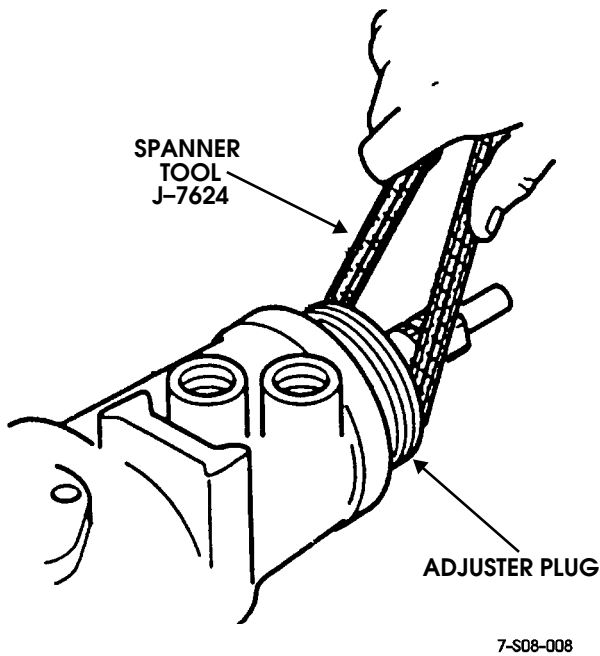

Figure 8-34: Adjuster Plug Removal
2. Remove adjuster plug from housing with spanner wrench J-7624 (Figure 8-34).